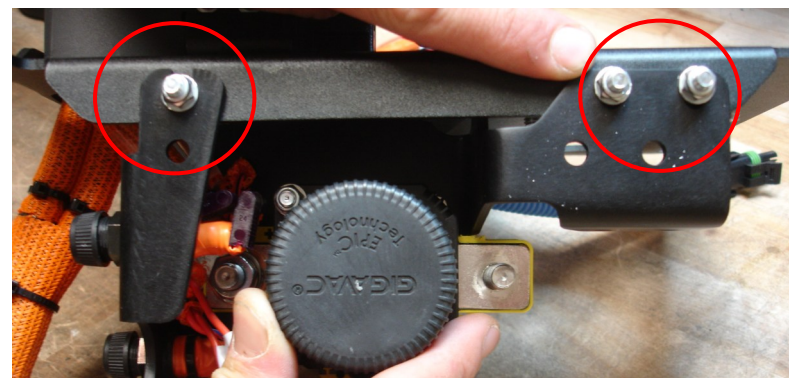

Figure 18
11. Secure MOUNT BRACKET CONTACTOR (ITEM 13) to XMX MODULE SUPPORT PLATFORM (ITEM 8) with (x3) M5 NUTS (ITEM 17), (x3) M5 WASHERS (ITEM 18). See FIGURE 18 for placement.